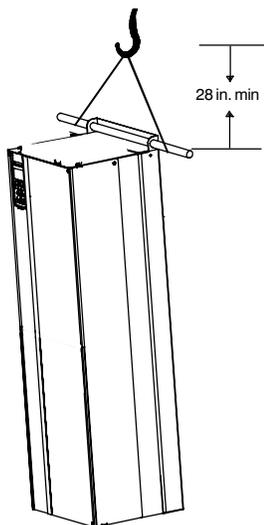

Figure 3-3. Proper Lifting Method
- Use solid steel spreader bar for lifting. Slide spreader bar through two (2) lifting rings on drive. Lifting rings are 0.75 inches (19 mm) in diameter (Figure 3-3).